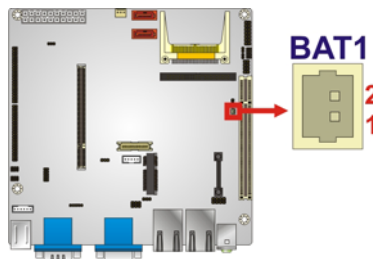

Figure 3-4: Battery Connector Location
- CN Location:** See **Figure 3-4**